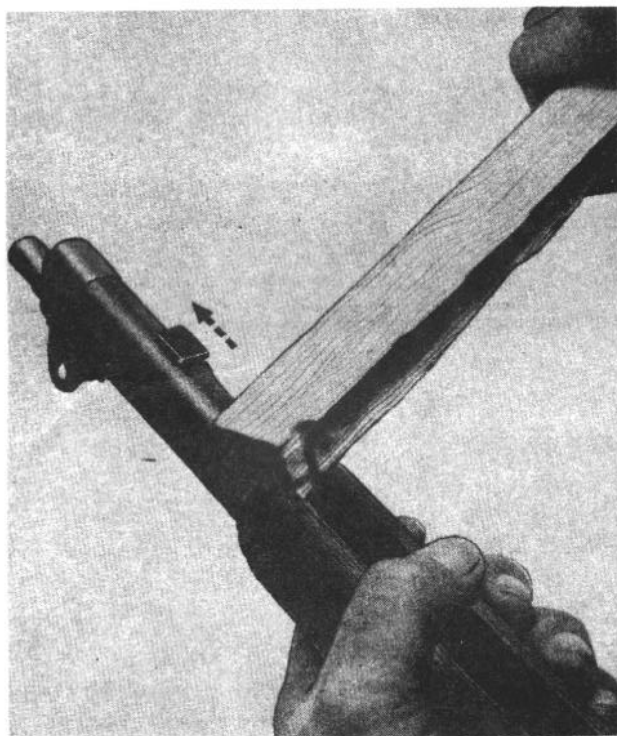

Figure 9. Removing the gas cylinder.
h. Unscrew and remove the gas cylinder lock. Loosen the gas cylinder by tapping lightly toward the muzzle on the bayonet stud with a piece of wood or similar soft object (fig. 9). Remove the gas cylinder, taking care not to burr or damage the splines. *Do not remove or attempt to adjust the front sight.*